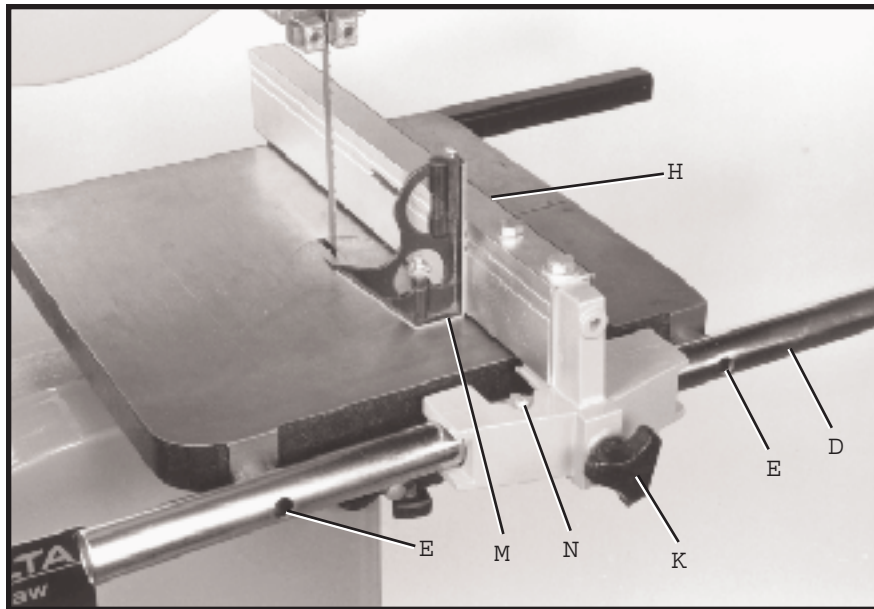

Fig. 29
9. Position a combination square (M) Fig. 29, against the side of fence assembly (H), as shown. Tighten knob (K). Check to see that the fence assembly is perpendicular to the band saw table. If an adjustment is necessary, loosen two hex socket head screws (E), and adjust the position of front guide rail (D). Tighten screws (E).
10. Position the fence assembly (H) Fig. 29, against the saw blade. Tighten knob (K). Check to see that the pointer (N) is aligned with the 0 (zero) marking on the front guide rail (D). If an adjustment is necessary, loosen the pointer screw and adjust the pointer. Tighten pointer screw.